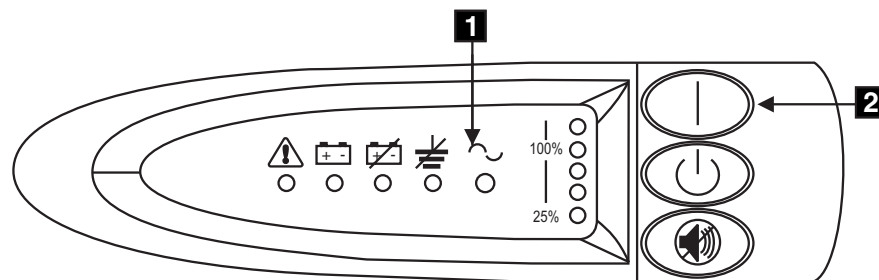

Figure 263. Power switch and indicators of the 2145 UPS
10. All the front panel indicators (see Figure 263) flash for a short time while the 2145 UPS runs a self test. When the test is complete, the mode indicator flashes to show that the 2145 UPS is in standby mode.